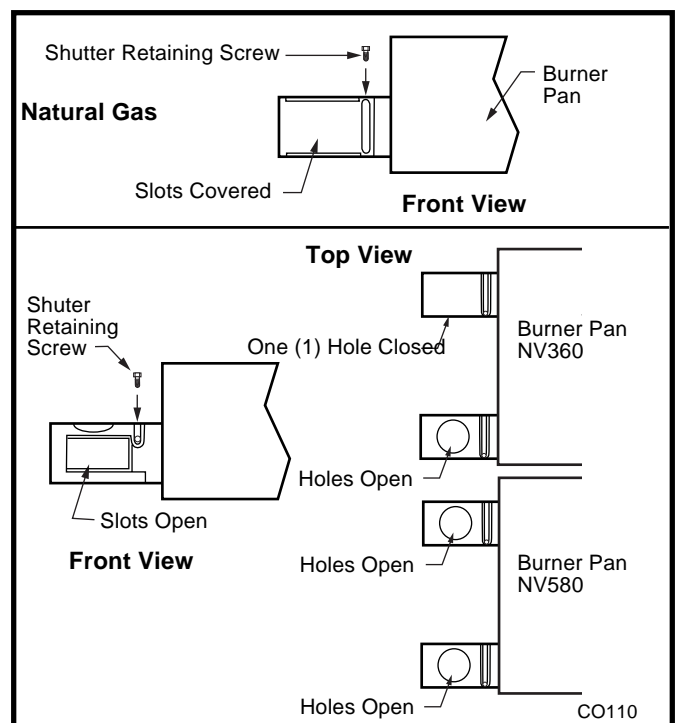

Fig. 25 Install conversion air shutters.
11. Install air shutters supplied in kit on burner pan. Replace shutter retaining screw. For conversion to Natural Gas adjust new air shutters so slots are covered. For conversion to Propane Gas, adjust new air shutters so slots are open. **NOTE:** NV360 air shutter has only one hole, closed. Secure shutter retaining screws. (Fig. 25)